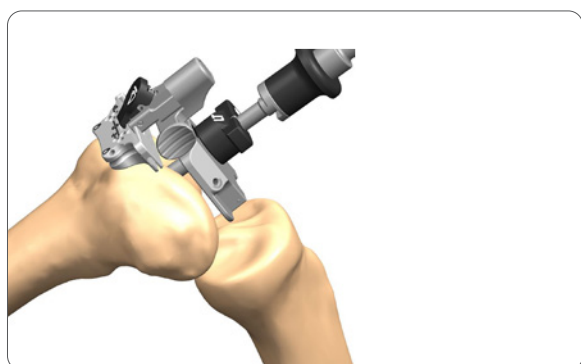

Figure 62
2. Slide the Intramedullary Rod of the alignment assembly into the femoral canal until the Valgus Guide contacts the distal femur (**Figure 62**).